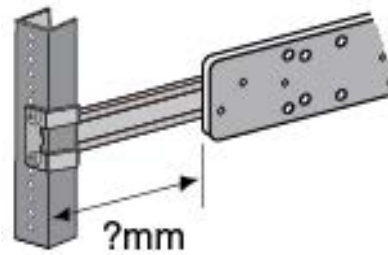

Figure 49. Measuring for the Extension Brackets
3. Measure the distance from the front of the equipment rack to the front of the inner rail. This will be the approximate length of the extension brackets. Refer to Figure 49.